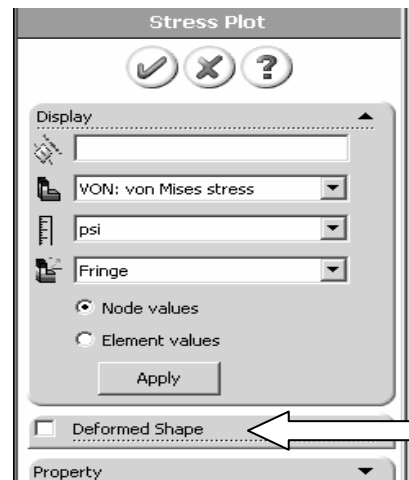

Figure 19 – **Stress Plot** property manager.
10. Right-click **Plot1 (-vonMises-)** and from the pull-down menu select **Edit Definition...** The **Stress Plot** property manager, shown in Fig. 19, opens.